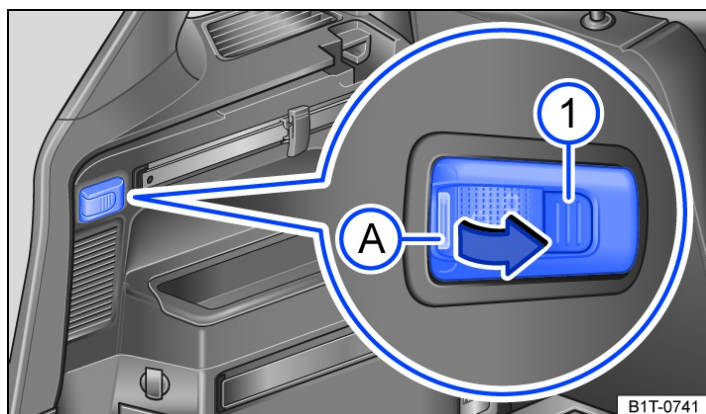

Fig. 1 On the left of the luggage compartment: removable light.
Depending on the vehicle equipment, there is a removable light in a holder in the luggage compartment → Fig. 1. When fitted, the removable light is used as a luggage compartment light.
- Grip the removable light in the area → Fig. 1 (A).